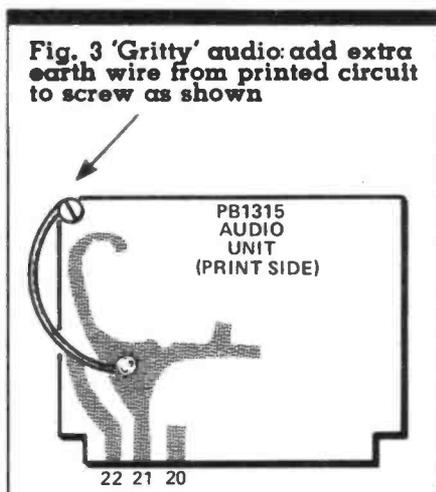

Fig. 3 'Gritty' audio: add extra earth wire from printed circuit to screw as shown
**Receive audio quality slightly below par – a bit 'gritty' FT101B Mk2 – FT101E.** If you suspect the receive audio quality, try adding an extra earth wire to the audio IC as shown in Fig. 3. If there is an immediate improvement leave this wire in position.